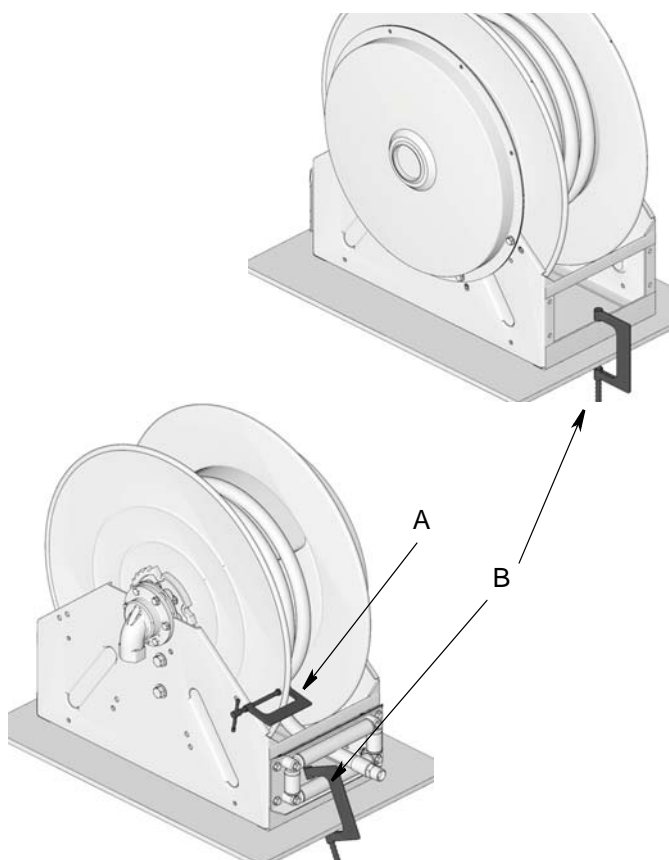

FIG. 8
- b. Use 2, large c-clamps (B) to secure the hose reel to a flat surface (FIG. 8).